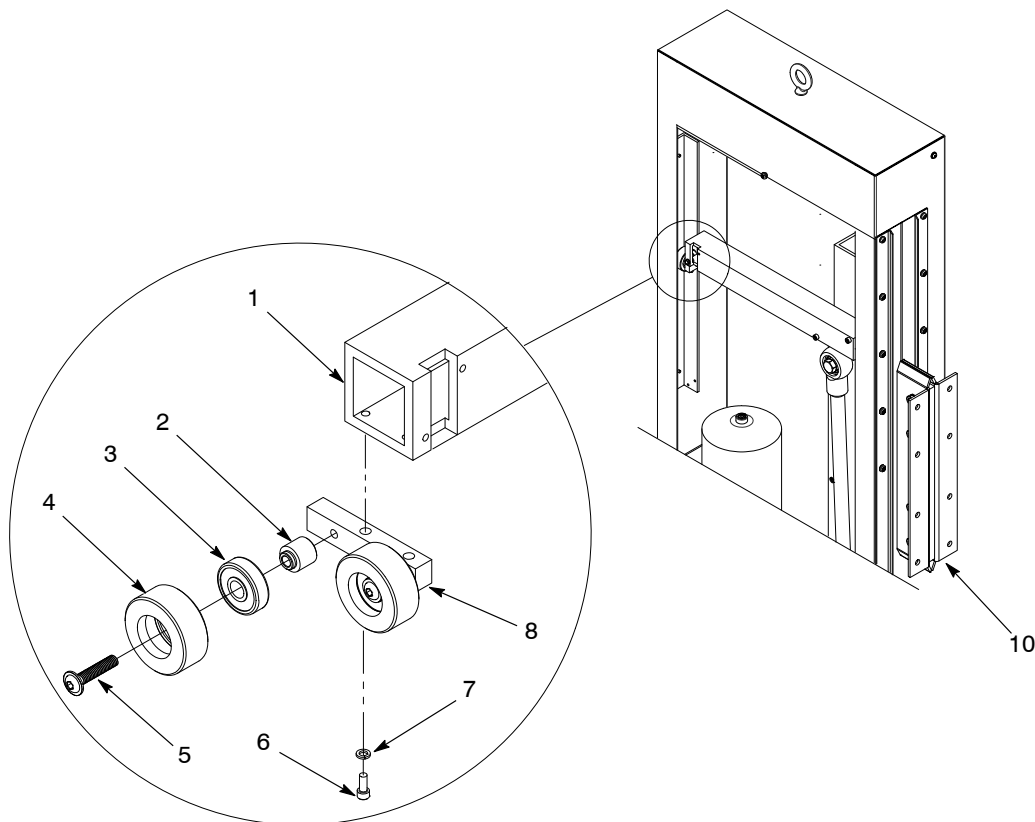

Figure 12 Typical Roller Assembly (VFD configuration shown)
2. See Figure 12. Make sure that the gun carriage (10) is in the down stroke position.
3. Remove the screws (6) and lock washers (7) securing the roller block (8) to the stabilizer bar (1).
4. Remove the button flange screw (5) securing the wheel (4), bearing (3), and axle (2) to the roller block (8). Only discard the wheel and bearing.
5. Install the new wheel (4), new bearing (3), and axle (2) to the roller block (8) using the button flange screw (5). Tighten the screws securely.
6. Install the roller block (8) to the stabilizer bar (1) using the lock washers (7) and screws (6). Tighten the screws securely.